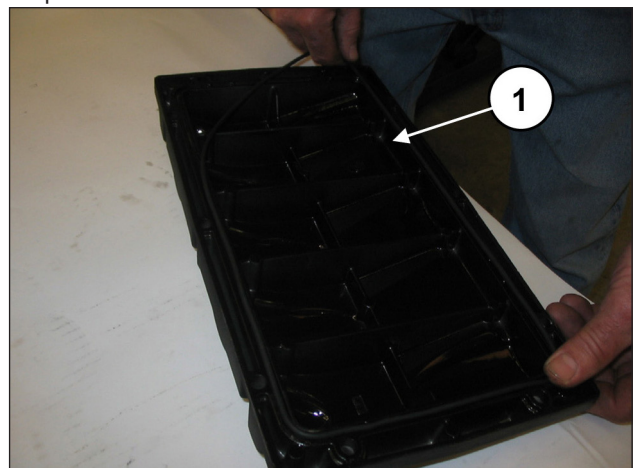
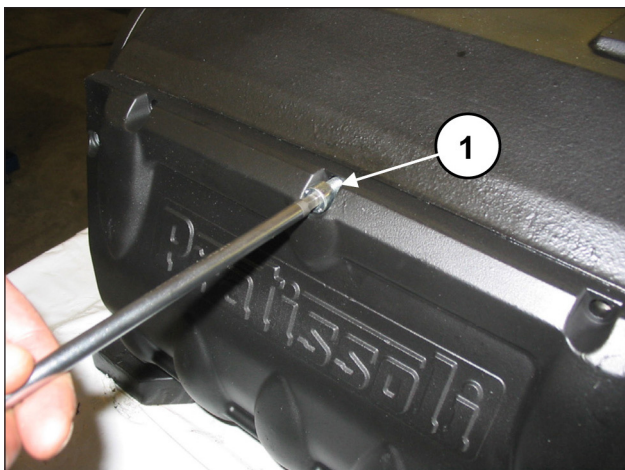

Fig. 84
Fig. 85
Insert the O-ring on the rear cover (pos. ①, Fig. 84) and fasten it to the casing with 10 M8x18 screws (pos. ①, Fig. 85). Calibrate the screws with a torque wrench as indicated in chapter 3.